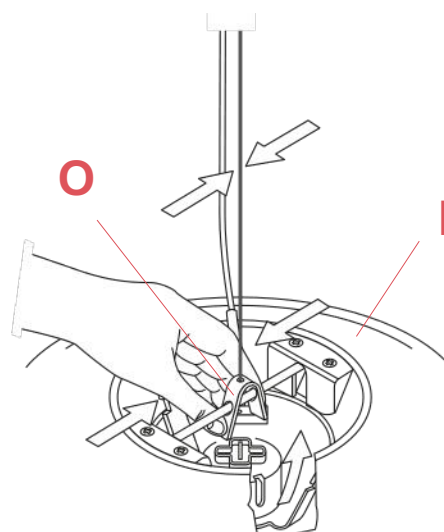

Fig.4
To balance the diffuser (I), regulate the spring (O) on the horizontal axis. (fig.4)